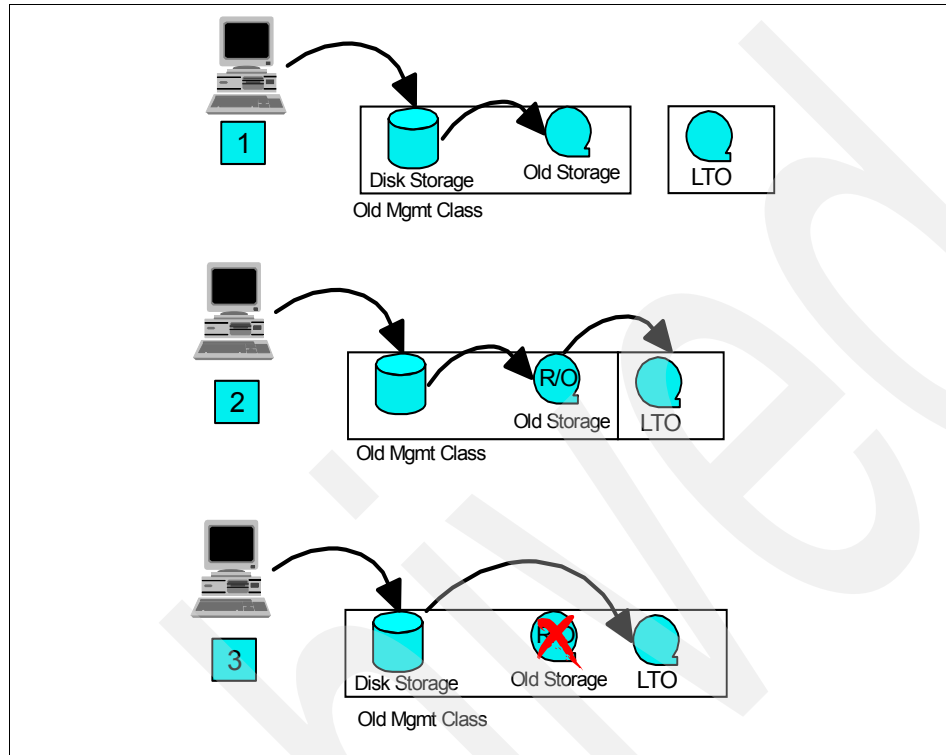

Figure 5-13 Migrating to LTO through disk primary copy
3. After creating the new LTO storage pool (label 1 in Figure 5-13 on page 222), modify the NEXTSTGPPOOL parameter of the old storage pool to point to the new LTO storage pool (label 2 in Figure 5-13 on page 222).
7. Once the old sequential storage pool is emptied, modify the NEXTSTGP00L parameter of the disk storage pool to point to the new LTO storage pool (label 3 in Figure 5-13).